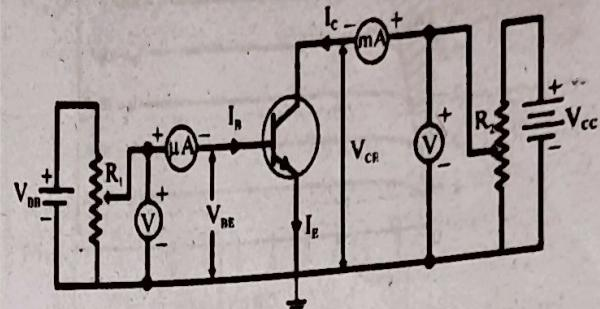

Fig. 1 : Characteristics of Common Emitter
Ans. Characteristics of Common Emitter (CE) Configuration : The characteristic of the common emitter transistor circuit is shown in fig. 1. The base to emitter voltage varies by adjusting the potentiometer R_1 and the collector to